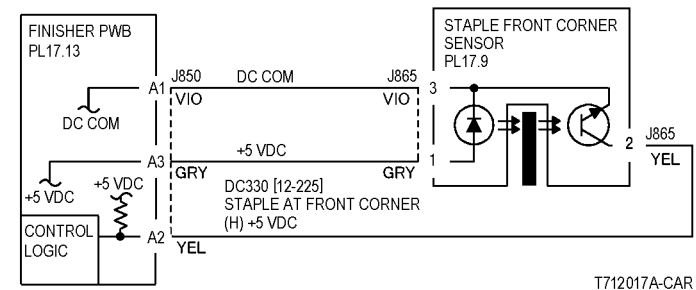

Figure 2 Staple Front Corner Sensor CD
- Ensure that the connectors shown in the circuit diagrams (Figure 2, Figure 3) are securely connected and that the wires are not damaged.